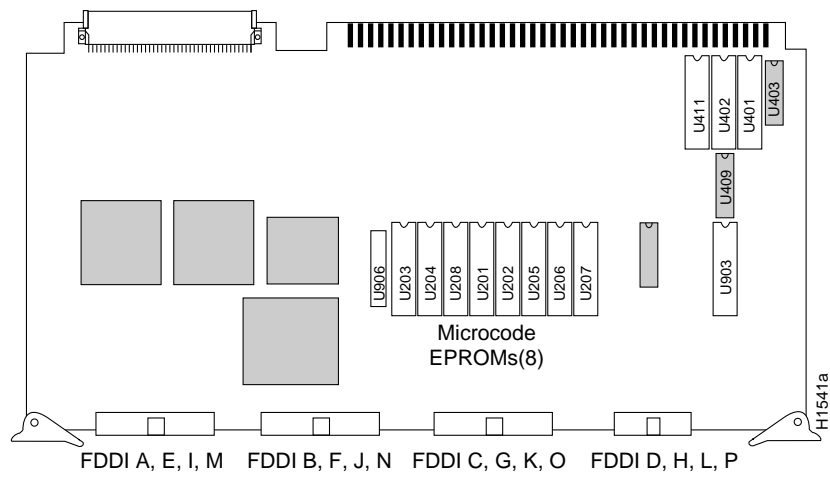

Figure 5-20 CSC-(C2)FCI FDDI Interface Card—Component-Side View
- CSC-(C2)FCI FDDI interface card, Figure 5-20